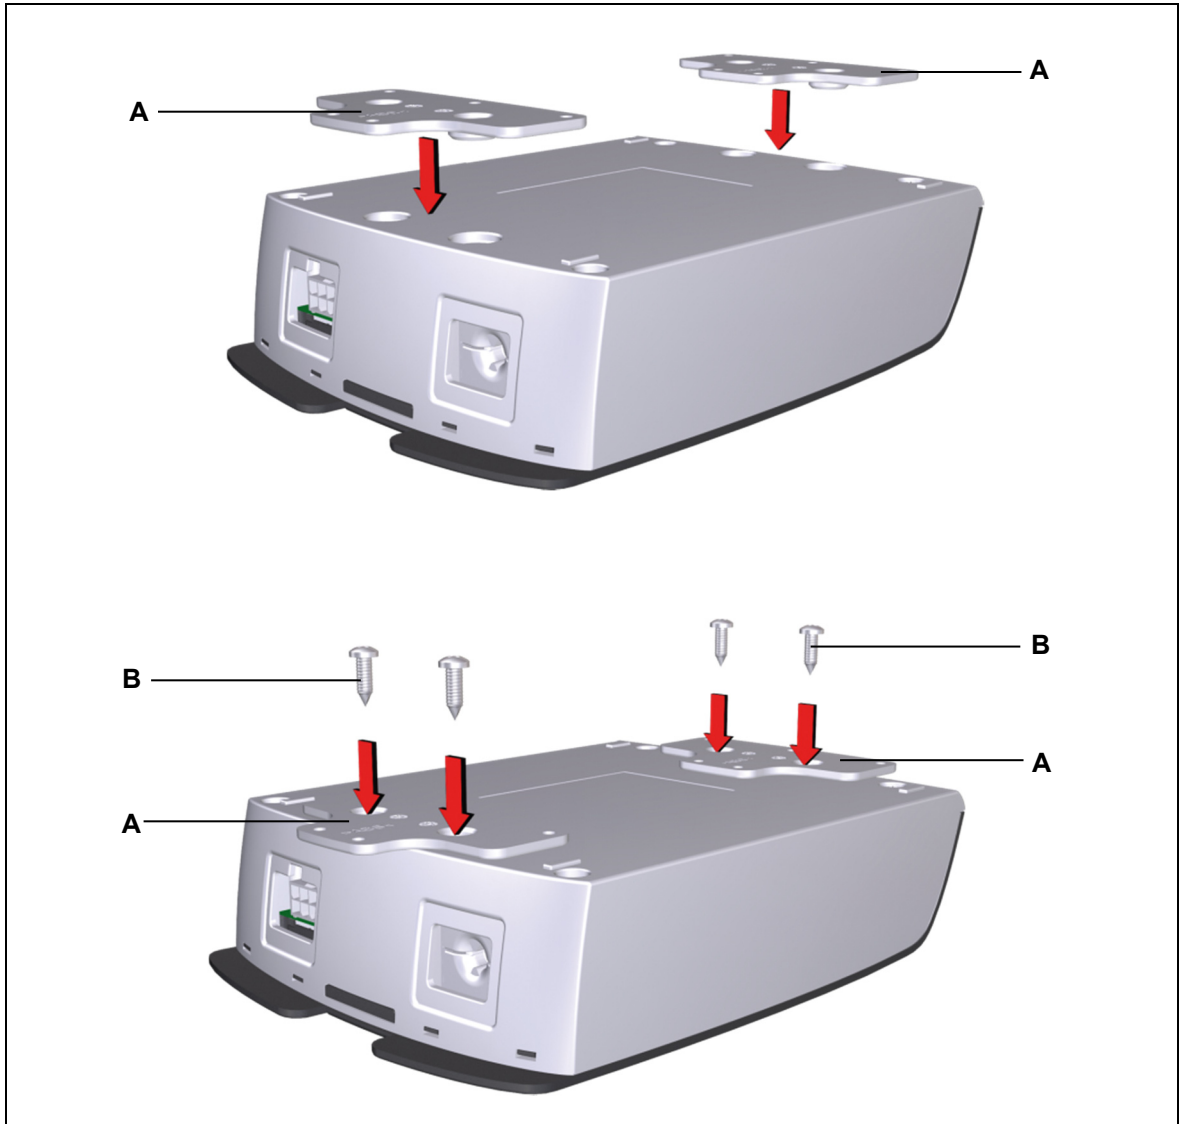

Figure 7 Attaching the mounting plates
- 1 Screw the mounting plates firmly onto the HE-300 SMPS POWER SUPPLY SMPS (as shown in Figure 7). Use at least two screws for each of the two mounting plates.